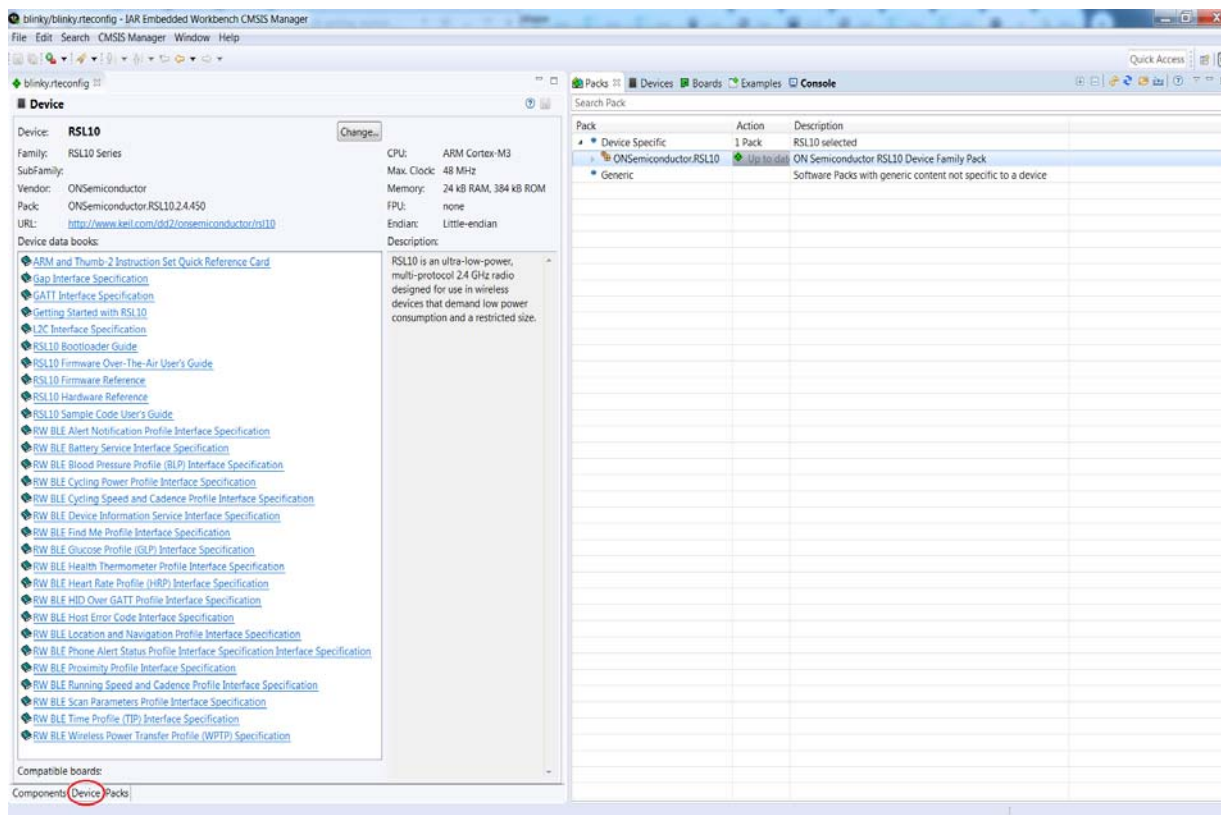

Figure 56. Accessing RSL10 documentation from the IAR Embedded Workbench
- IAR Embedded Workbench: documentation is accessible through the **IAR Embedded Workbench CMSIS Manager** window, as shown in Figure 56 on page 47.